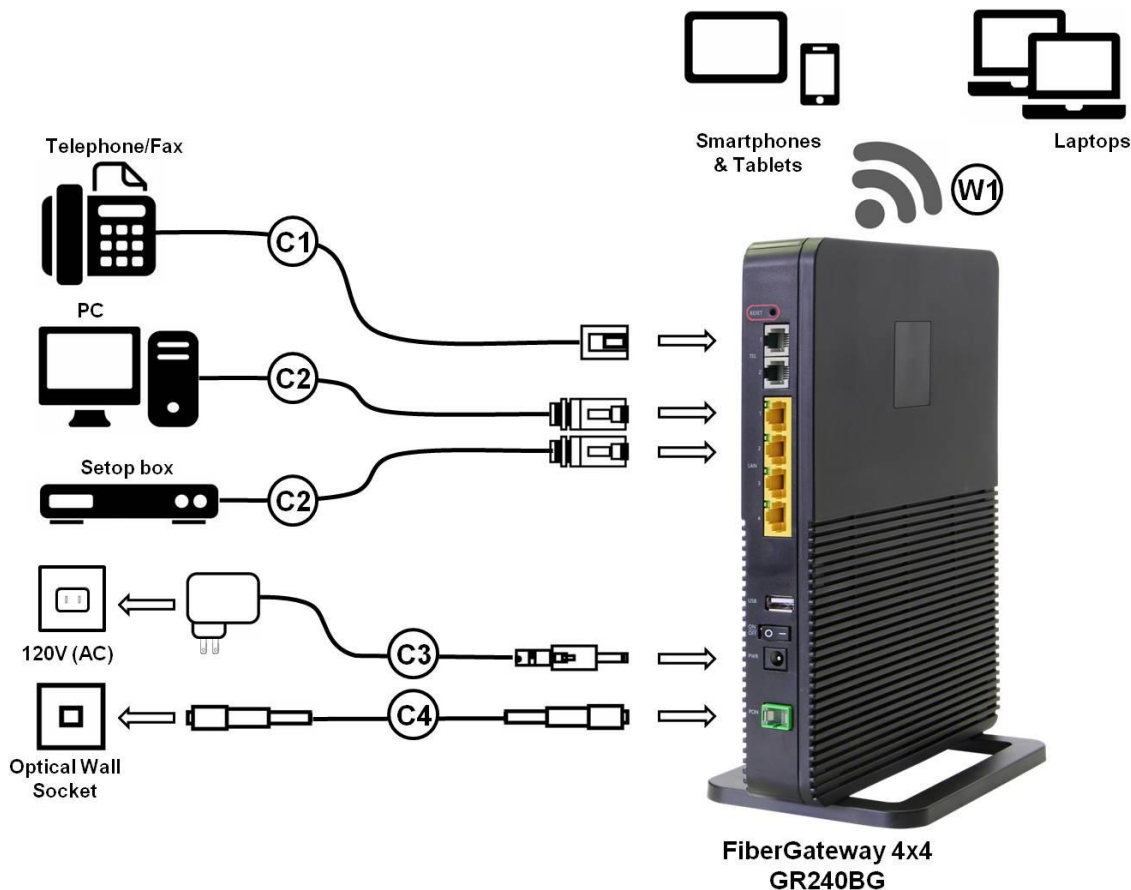

Figure 16: FiberGateway Typical usage scenario -Home network connections
Figure 16 bellow shows a FiberGateway Type usage scenario showing Home Network connections for triple play service provisioning. FiberGateway connectors' description can be found in Table 8 and connecting cables are described in Table 11..
- Plug the power adaptor appropriate power cord into an approved 100 to 230 VAC outlet, Figure 16;